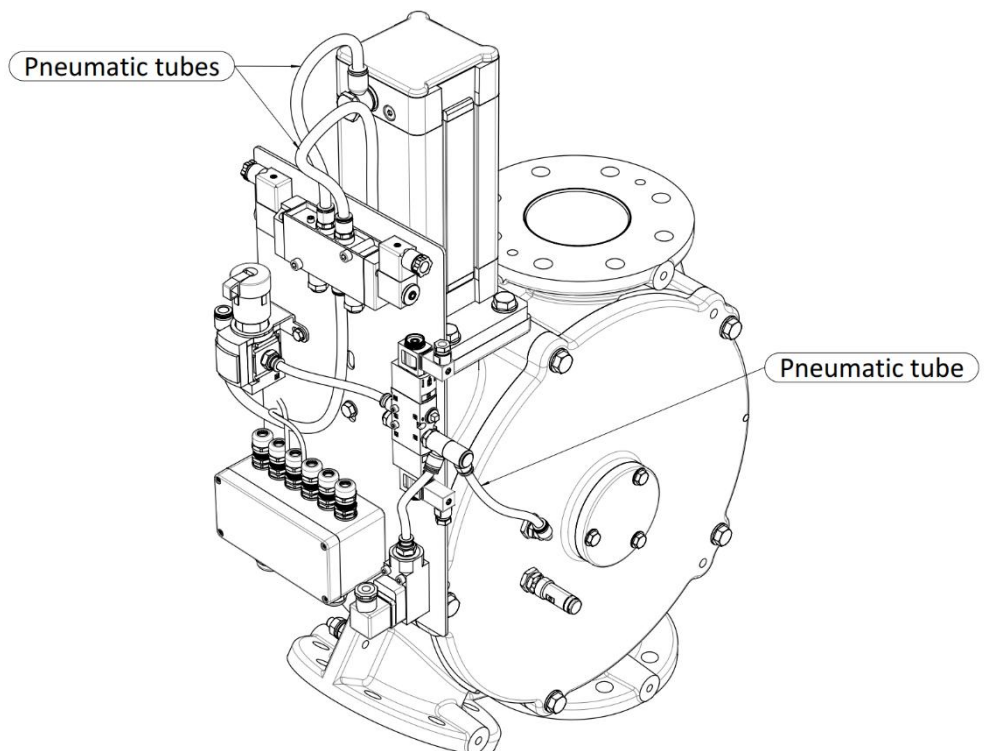

Figure 6 Connecting the AWDS pneumatic tubes
11. Connect the AWDS to the pneumatic cylinder according to Figure 6. Attach the left pneumatic connection to the upper cylinder connection, the right one to the lower connection.